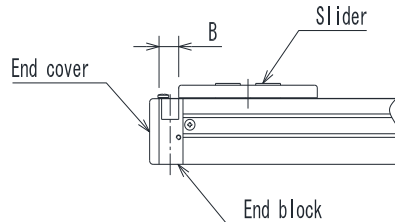

Fig. 5.5-1
- (1) Specify "1" for the motor revolving direction of Parameter 2.
- (2) Adjust the home position. As in Para. 5.4 above, the position "B" mm away from the end block should be the home point. (See Fig. 5.5-1.)